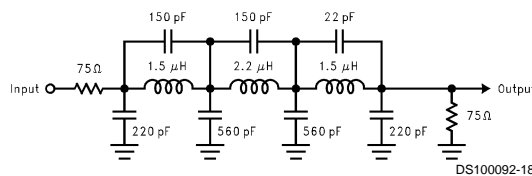

FIGURE 8. 5.5 MHz Low Pass Filter to Eliminate Harmonics at the Signal Input.
**Input test signal contains harmonic distortion that interferes with the measurement of dynamic signal to noise ratio.** Harmonic and other interfering signals can be removed by inserting a filter at the signal input. Suitable filters are shown in Figure 8 and Figure 9. The circuit of Figure 8 has cutoff of about 5.5 MHz and is suitable for input frequencies of 1 MHz to 5 MHz. The circuit of Figure 9 has a cutoff of about 11 MHz and is suitable for input frequencies of 5 MHz to 10 MHz. These filters should be driven by a generator of 75 Ohm source impedance and terminated with a 75 ohm resistor.